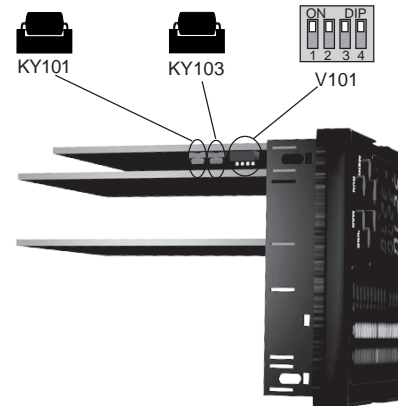

Fig. 22
This instrument can be supplied with many options. Two integrated circuits (KY101 and KY103), located as shown in fig. 22 and inserted in a socket, give you the possibility to verify if your instrument is equipped with the desired option. When KY101 is present the auxiliary input and the digital inputs are present. When KY103 is present the auxiliary power supply option is present.
1) By V101 (see fig 22) it is possible to select one of the following operative modes: